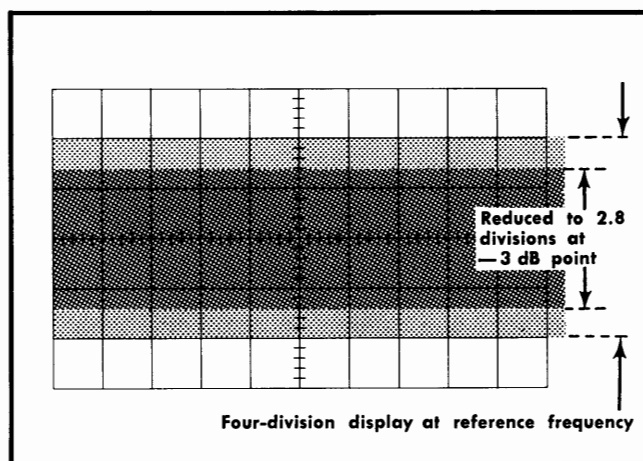

Fig. 5-19. Typical CRT display when checking vertical bandwidth (simulated waveform).
d. Without changing the output amplitude, increase the output frequency of the generator until the deflection is reduced to 2.8 divisions (-3 dB point; see Fig. 5-19).
h. Without changing the output amplitude, increase the output frequency of the generator until the deflection is reduced to 2.8 divisions (-3 dB point; see Fig. 5-19).
l. Without changing the output amplitude, increase the output frequency of the generator until the deflection is reduced to 2.8 divisions (-3 dB point; see Fig. 5-19).
q. Without changing the output amplitude, increase the output frequency of the generator until the deflection is reduced to 2.8 divisions (-3 dB point; see Fig. 5-19).
u. Without changing the output amplitude, increase the output frequency of the generator until the deflection is reduced to 2.8 divisions (-3 dB point; see Fig. 5-19).
y. Without changing the output amplitude, increase the output frequency of the generator until the deflection is reduced to 2.8 divisions (-3 dB point; see Fig. 5-19).
c. Without changing the output amplitude, increase the output frequency of the generator until the deflection is reduced to 2.8 divisions (-3 dB point; see Fig. 5-19).
h. Without changing the output amplitude, increase the output frequency of the generator until the deflection is reduced to 2.8 divisions (−3 dB point; see Fig. 5-19).
d. Without changing the output amplitude, increase the output frequency of the generator until the deflection is reduced to 2.8 divisions (−3 dB point; see Fig. 5-19).